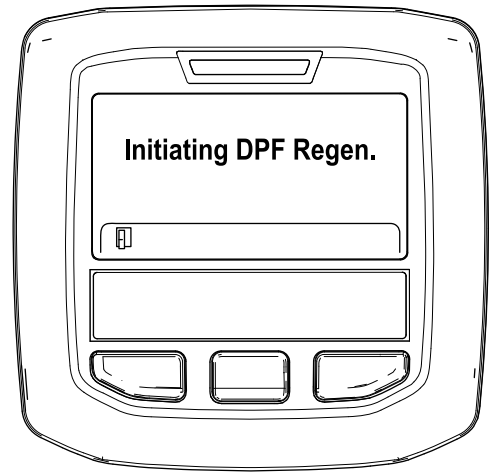

Figure 46
- A. The "Initiating DPF Regen." message displays (Figure 46).